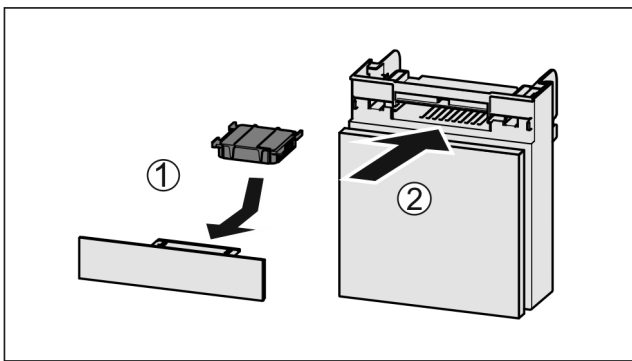

Fig. 108
- ▶ Insert the carbon filter as shown in the diagram Fig. 108 (1).
- ▶ Push the compartment in Fig. 108 (2).